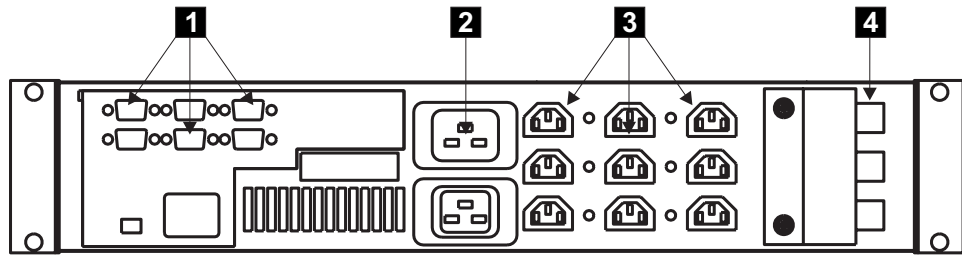

Figure 205. 2145 uninterruptible power supply (rear view)
2. At the back of the 2145 UPS (Figure 205 on page 467), disconnect the power cables of the SAN Volume Controller **3**.
4. Disconnect the main power cable **2** (Figure 205 on page 467).